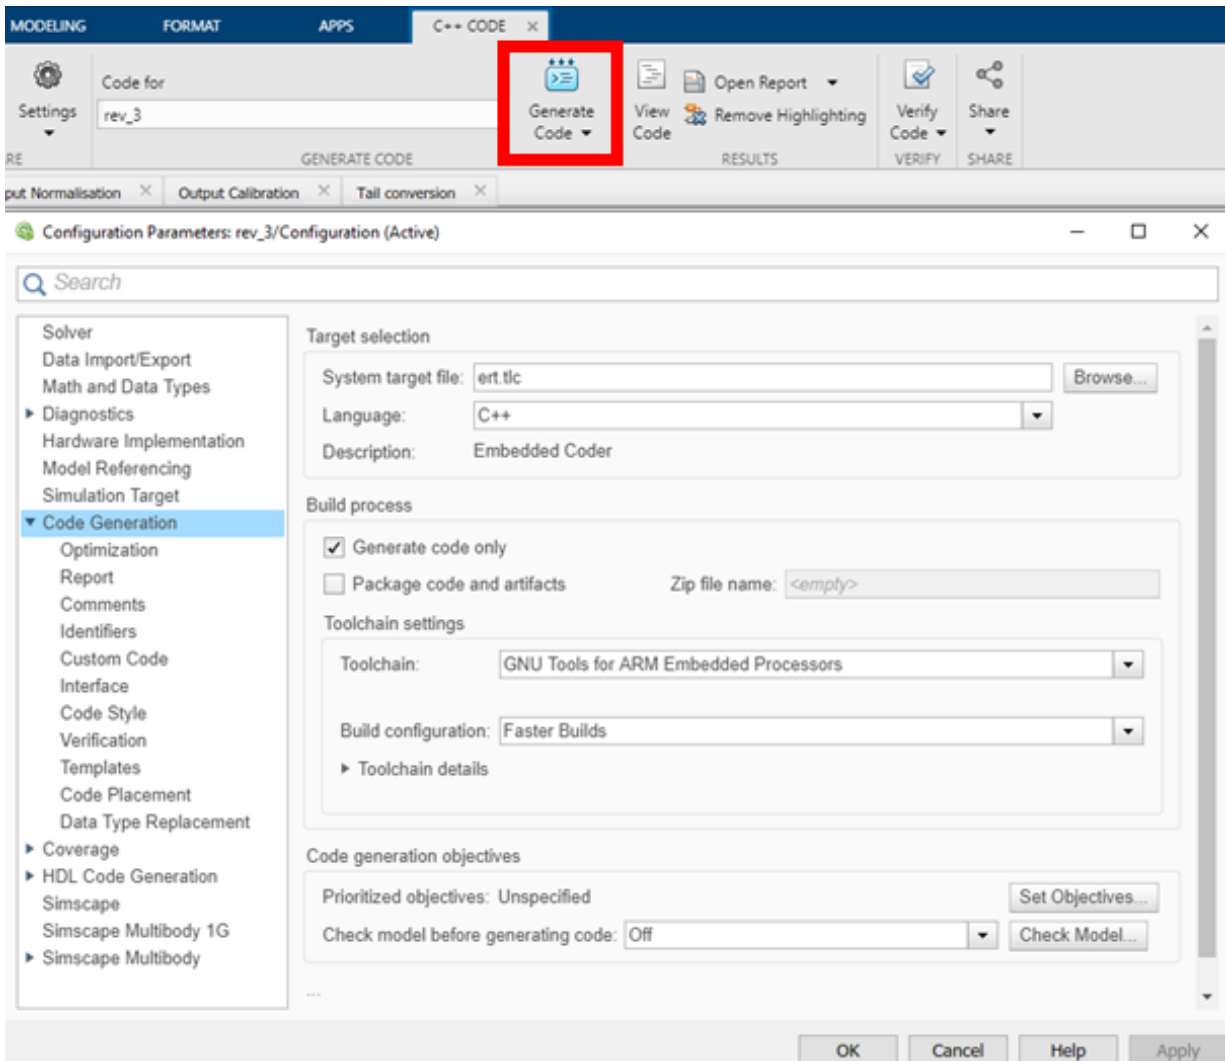

Figure 23: Settings for Code Generation.
3. **Restart MATLAB:** MATLAB has to be restarted. After the restart, the installed support package will automatically set MATLAB/Simulink preferences to the configuration that can be seen in Fig. 23.
The code can then be generated by clicking `Generate Code` (see Fig. 23). When the code generation is successful, MATLAB will show the Code Generation Report window with details of the generated code (e.g. the path of the selected code generation folder); otherwise the Diagnostic Viewer will be shown for debugging. To upload the generated flight controller code to the Pixhawk, review and follow the steps described in Sec. 3.5.